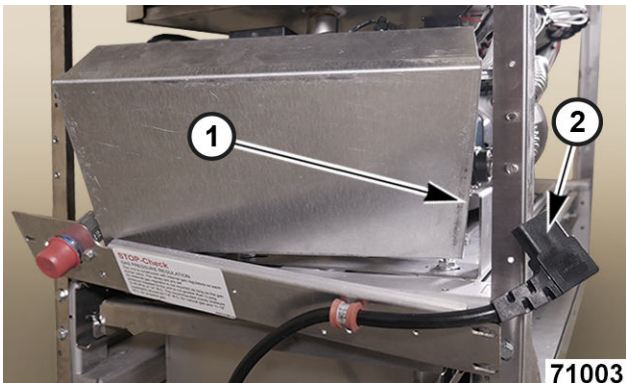

Fig. 41
4. Slide power supply box left to disengage from slot bracket (1, Fig. 41).
5. Disconnect power cord from power supply box (2, Fig. 41).
12. Connect power cord to power supply (2, Fig. 41).
13. Position power supply to engage slot bracket (1, Fig. 41).